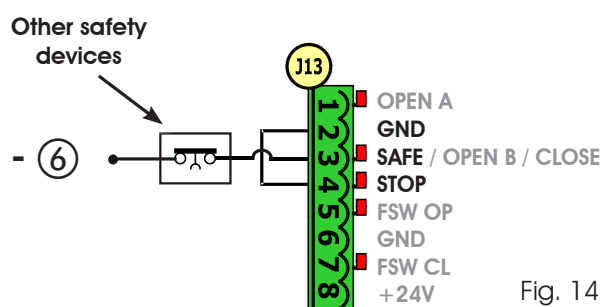

Fig. 14
(1) The uses of inputs 3 and 4 can be set by configuring the corresponding parameters at programming level 2 (parameters **Ob** and **SP**). For the exact description on how to operate the automated system with the chosen logics, please refer to the tables featured at the end of this manual (Par. 10 - OPERATION LOGICS). As for the wiring required using these **SAFE** configured inputs, please refer to the diagrams shown in Fig.13 and Fig. 14
✎ If the Fail Safe safety device is disabled (parameter that can be set in programming level 2), the negative used for managing the SAFE input is - ⑥ (see Fig. 14).